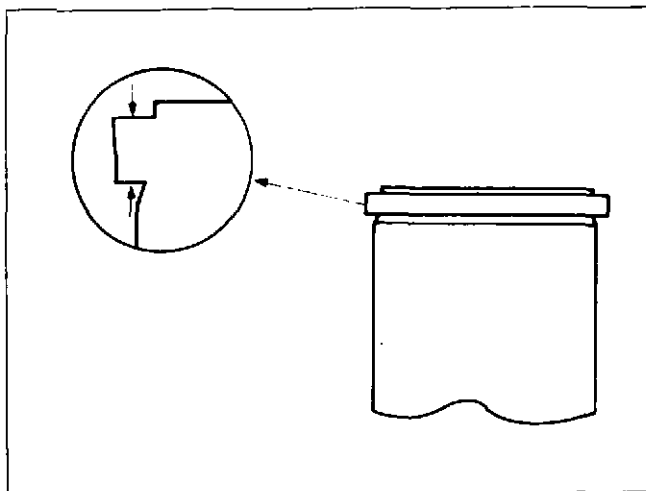

Fig. 1-10 (V401104). The Cylinder Liner Flange.
- a. Measure the thickness of the flange on the liner. Do not include the bead on the top of the flange when you measure the flange, Figs. 1-10 and 1-11.